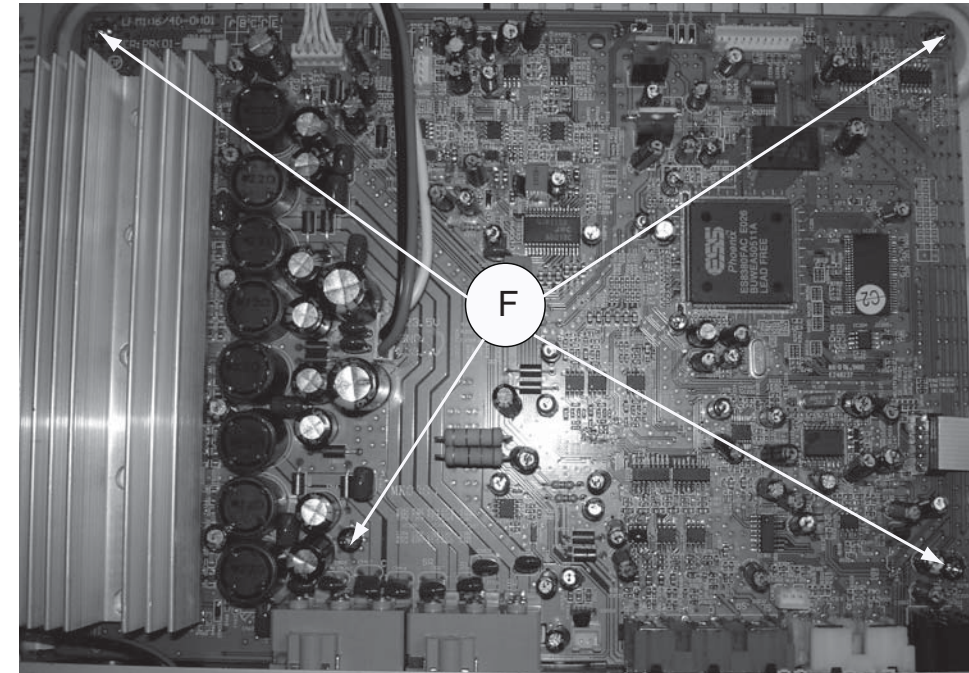

Figure 6
- 1) Loosen 4 screw " F " on the top of main board as shown in figure 6.